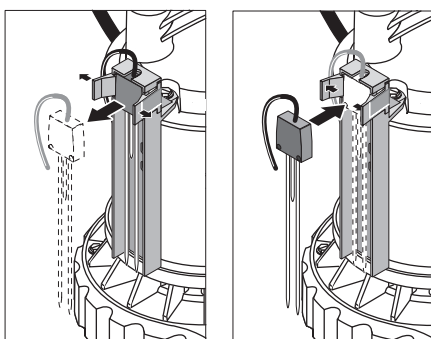

Figure 11: Switch snaps out of bracket as shown. Be careful not to spread the catches too far.
- 3A. Unsnap the switch from the switch bracket and remove it from the pump (see Figure 11, Page 5).
To remove the switch, spread the tabs on the top of the bracket just far enough to slide the switch out between them. Use the wire to push the switch forward out of the bracket (see Figure 11).
To replace the switch, push it back between the bracket tabs until it is flat against the back of the bracket (see Figure 11).